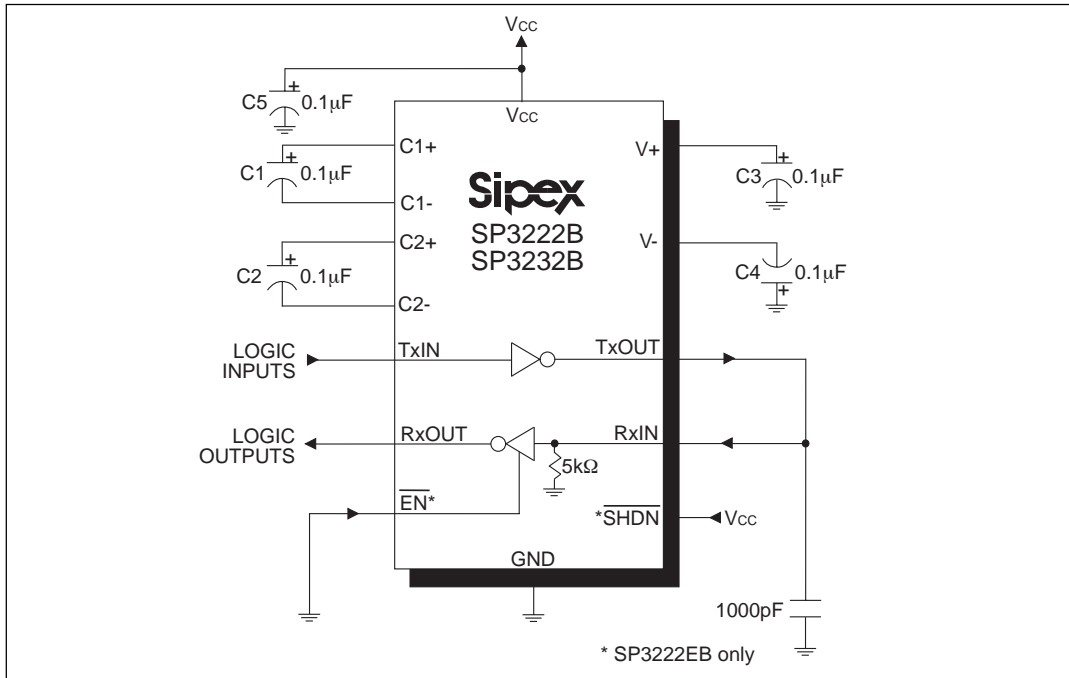
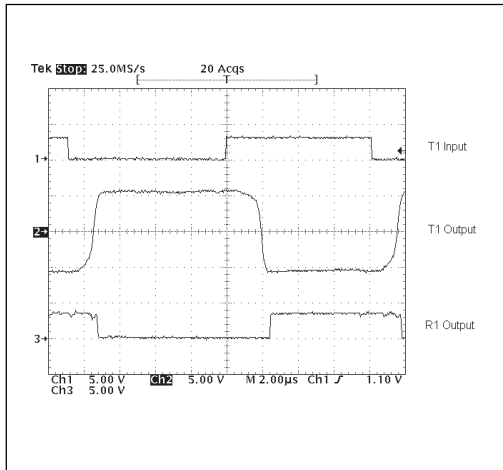
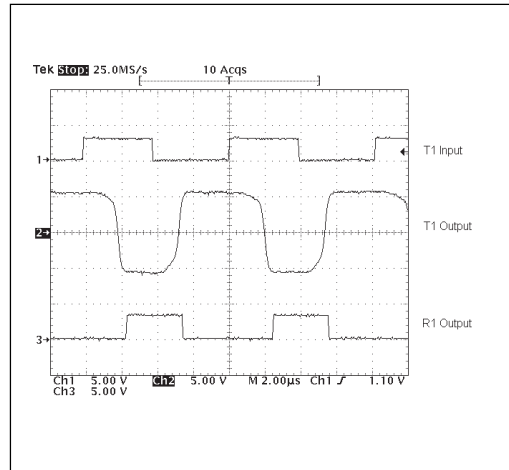

Figure 10. SP3222B/3232B Driver Loopback Test Circuit
Figure 11. Driver Loopback Test Results at 120kbps
Figure 12. Driver Loopback Test Results at 250kbps
*Figure 10* shows a loopback test circuit used to the RS-232 drivers. *Figure 11* shows the test results of the loopback circuit with all drivers active at 120kbps with RS-232 loads in parallel with  $1000\text{pF}$  capacitors. *Figure 12* shows the test results where one driver was active at 250kbps and all drivers loaded with an RS-232 receiver in parallel with a  $1000\text{pF}$  capacitor. A solid RS-232 data transmission rate of 250kbps provides compatibility with many designs in personal computer peripherals and LAN applications.